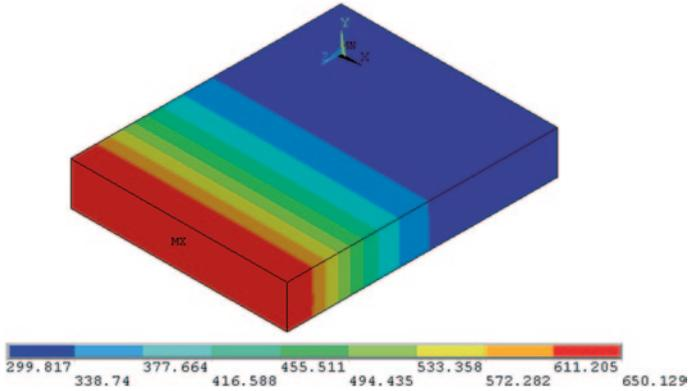

Fig. 9.60 Contour plot of temperature at substep 5 (time = 69.409 s)
- *Contour Nodal Solution Data* dialog box appears. Select **DOF Solution** and **Nodal Temperature**; click on **OK**. The contour plot appears, as shown in Fig. 9.60.